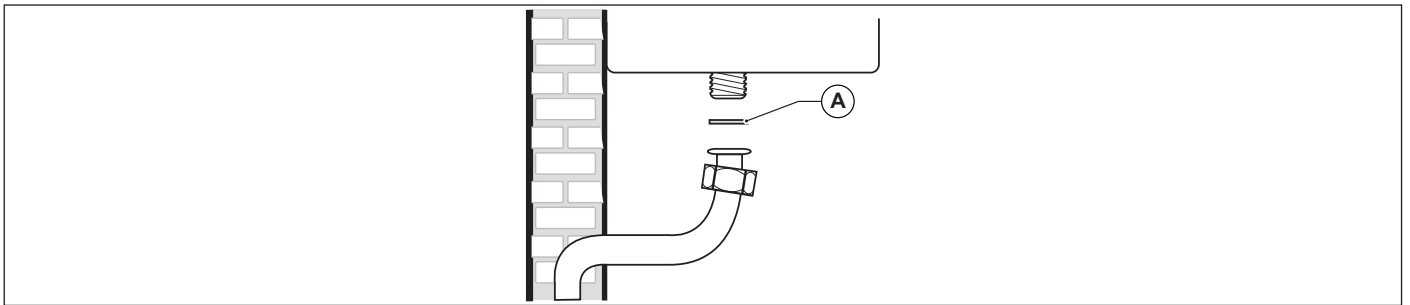

Fig. 15 Connection to gas mains
**When connecting the boiler to gas supply network, it is COMPULSORY to install an appropriately sized gasket (A) made from suitable material (see Fig. 15 Connection to gas mains).**